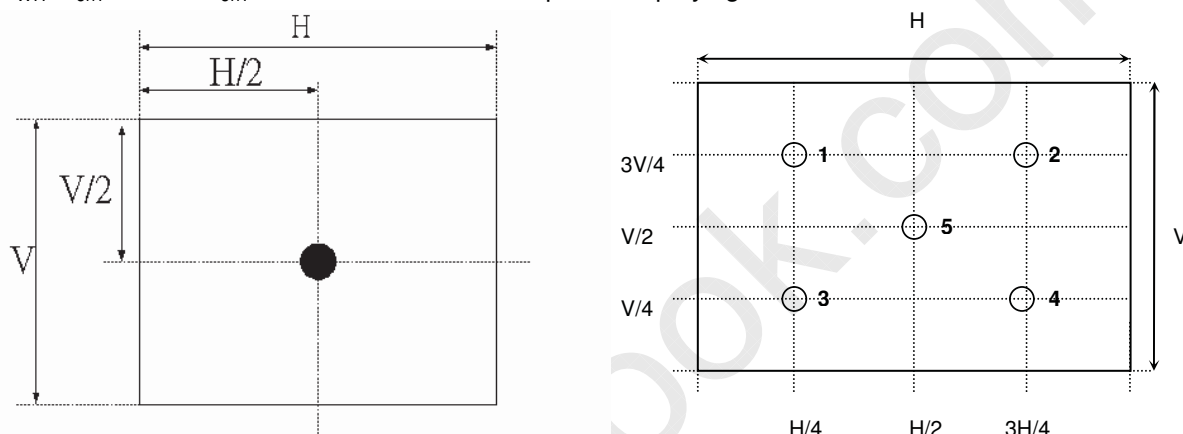

Fig.4-2 Optical measurement point
2. Surface luminance is luminance value at point 1 across the LCD surface 50cm from the surface with all pixels displaying white. From more information see Fig. 4-2. When  $V_{DDB} = 24V$ ,  $I_{DDB} = 6.4A$ .  $L_{WH} = L_{on1}$ , Where  $L_{on1}$  is the luminance with all pixels displaying white at center 1 location.